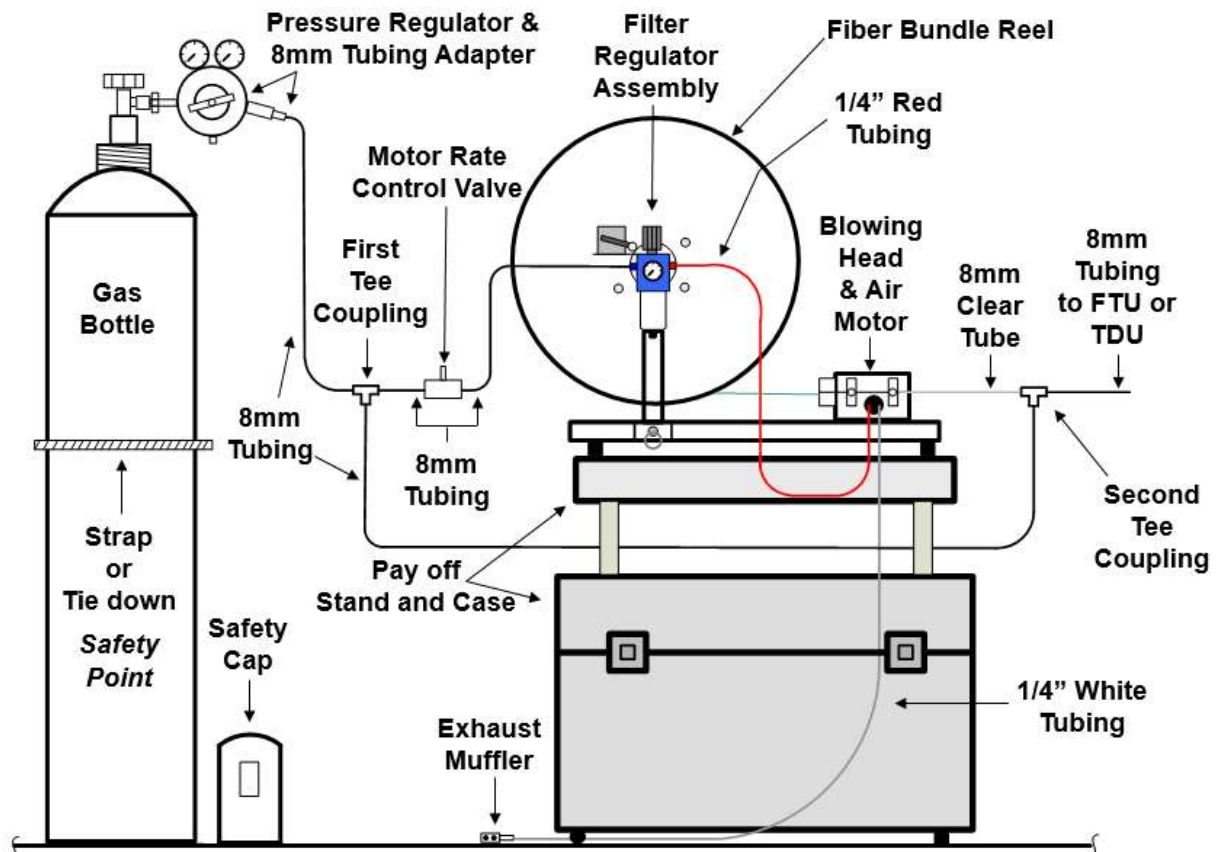

Figure 2
5.1 **See Fig. 2** for Blowing Head Equipment layout. Also refer to Sumitomo Recommended Procedure SP-F04-001 for detailed set-up procedures.